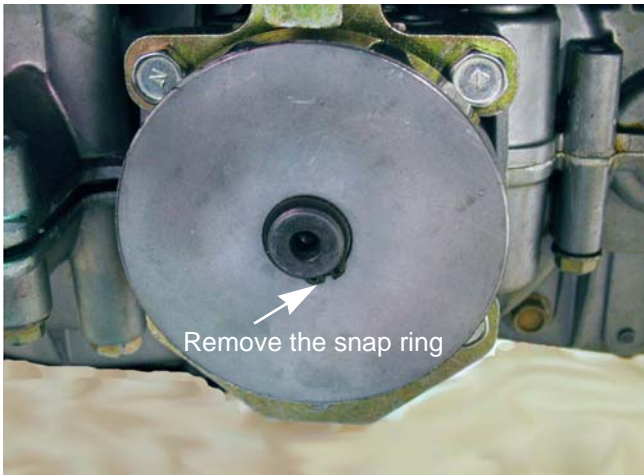

Figure 3.16
- Remove the snap ring that secures the drum with a pair of snap ring pliers. See Figure 3.16.